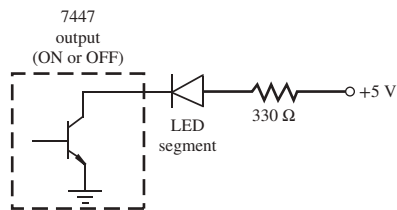

Figure 6.37 7447 output circuit.
If the 7447 decoder driver is properly connected to a seven-segment LED display, the output from a counter can be displayed in numerical digit form. Note that the decoder driver does not actually drive the segment LEDs by supplying current to them; rather, it sinks current from them as illustrated in Figure 6.37. The outputs of the 7447 are open-collector outputs. The resistor and LED segment complete the circuit for each 7447 output. Therefore, the LED is ON (i.e., illuminated) when the 7447 output is low (0), allowing current to flow to ground. 330 Ω resistors are used in series with the segments to limit the current into the decoder driver, thus preventing damage to the segments.